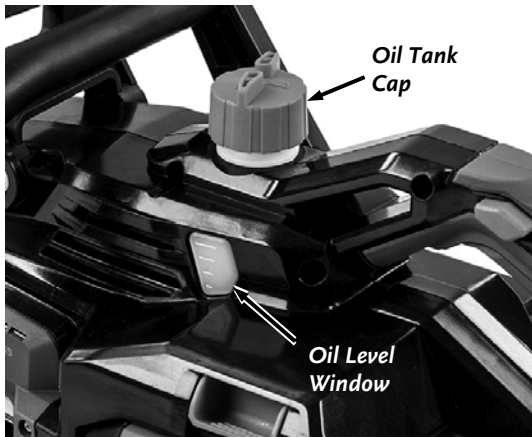

Figure 10
1. Remove the Oil Tank Cap and add #32 Bar & Chain Oil to the top line of the Oil Level Window (**Figure 10**). Replace and tighten the Oil Tank Cap.